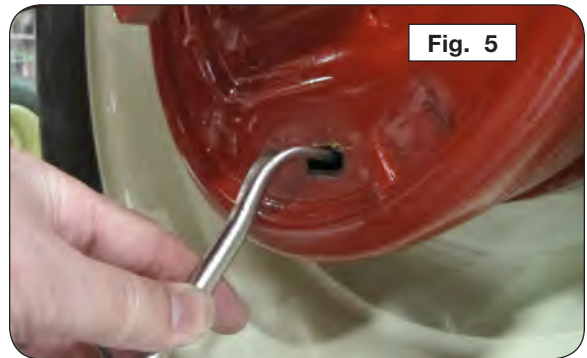

Fig. 5
3. Spin tire in direction of forward travel of the wagon. While tire is spinning, increase the brakes using the shoe adjustment star wheel until full contact of brakes can be heard (Fig. 5).